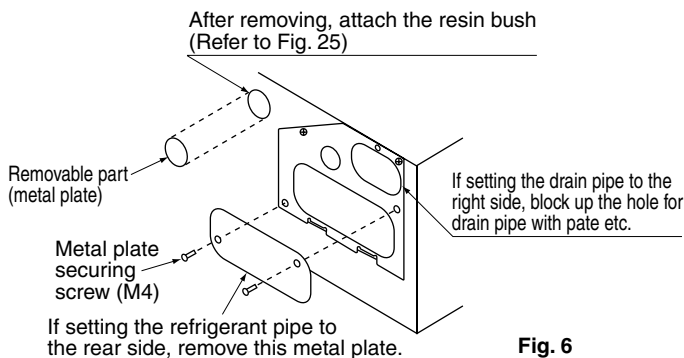

Fig. 6
- When setting the refrigerant pipe to the rear side, remove the securing screws and the metal plate. (Refer to Fig. 6).